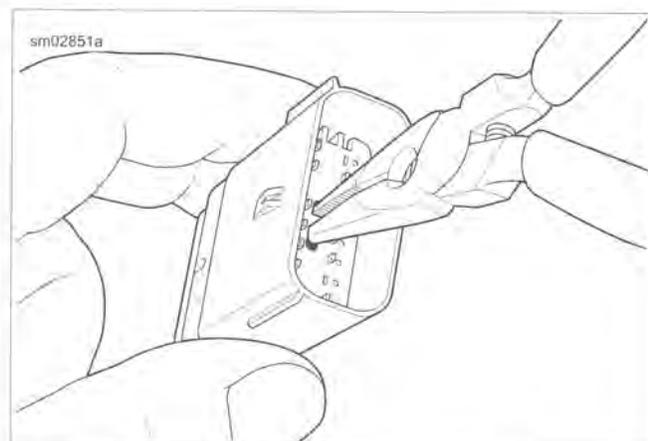

Figure A-49. Pull Up Secondary Lock
- b. **Pin Housing:** See Figure A-49. Use needle nose pliers to engage the D-holes in the center of the secondary lock.